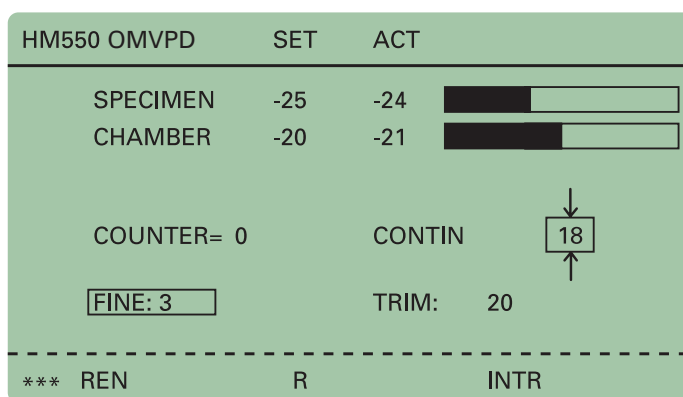

Figure 61. Display: Interrupting a defrosting cycle.
- The interrupted defrosting is shown in the status line on the display (fig. 61) as INTR.